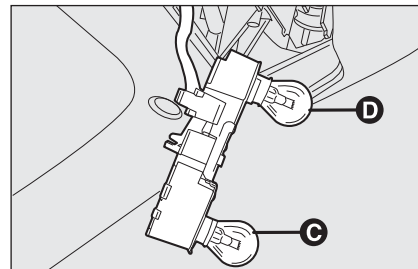

fig. 37
- remove and replace the burnt-out bulb by pressing it slightly and turning it counterclockwise **fig. 37**: